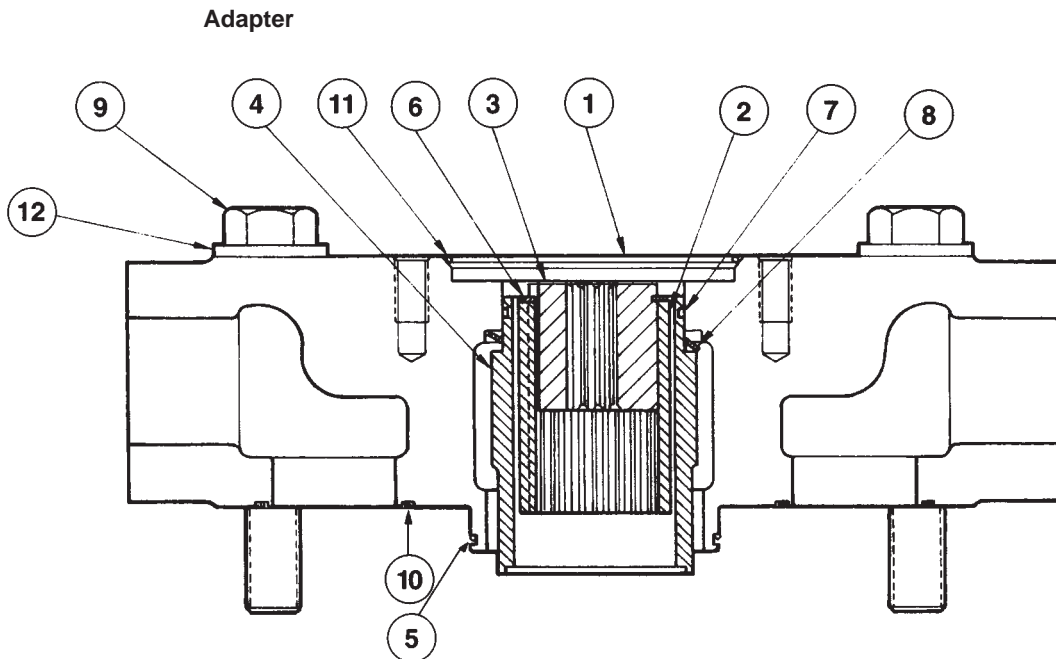

Figure 15
See figure 15. Place wave spring, (8) over isolation tube (4). Lube O-ring (7) and assemble to isolation tube. Place isolation tube against pressure plate, item (9) Fig. 9.
PARTS LIST FOR FIGURE 15